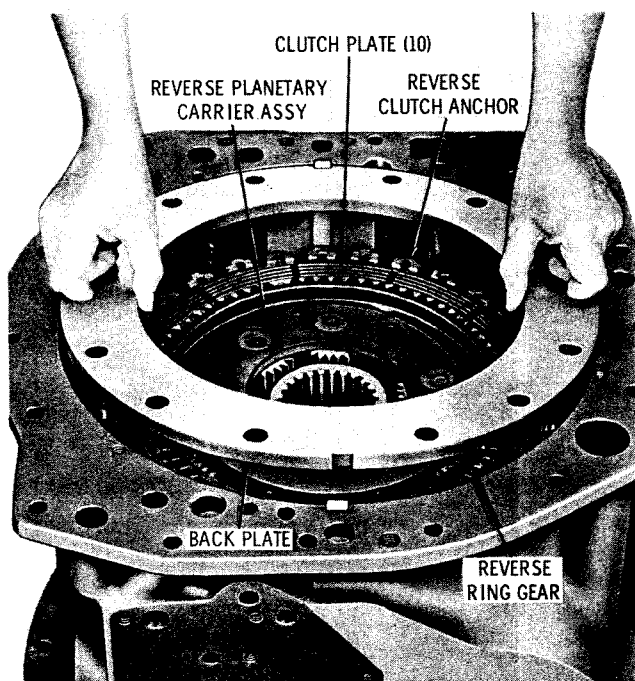

Fig. 7-27. Installing forward-and-reverse clutch back plate (5631 models)
(5) Install the forward-and-reverse clutch back plate (fig. 7-27).